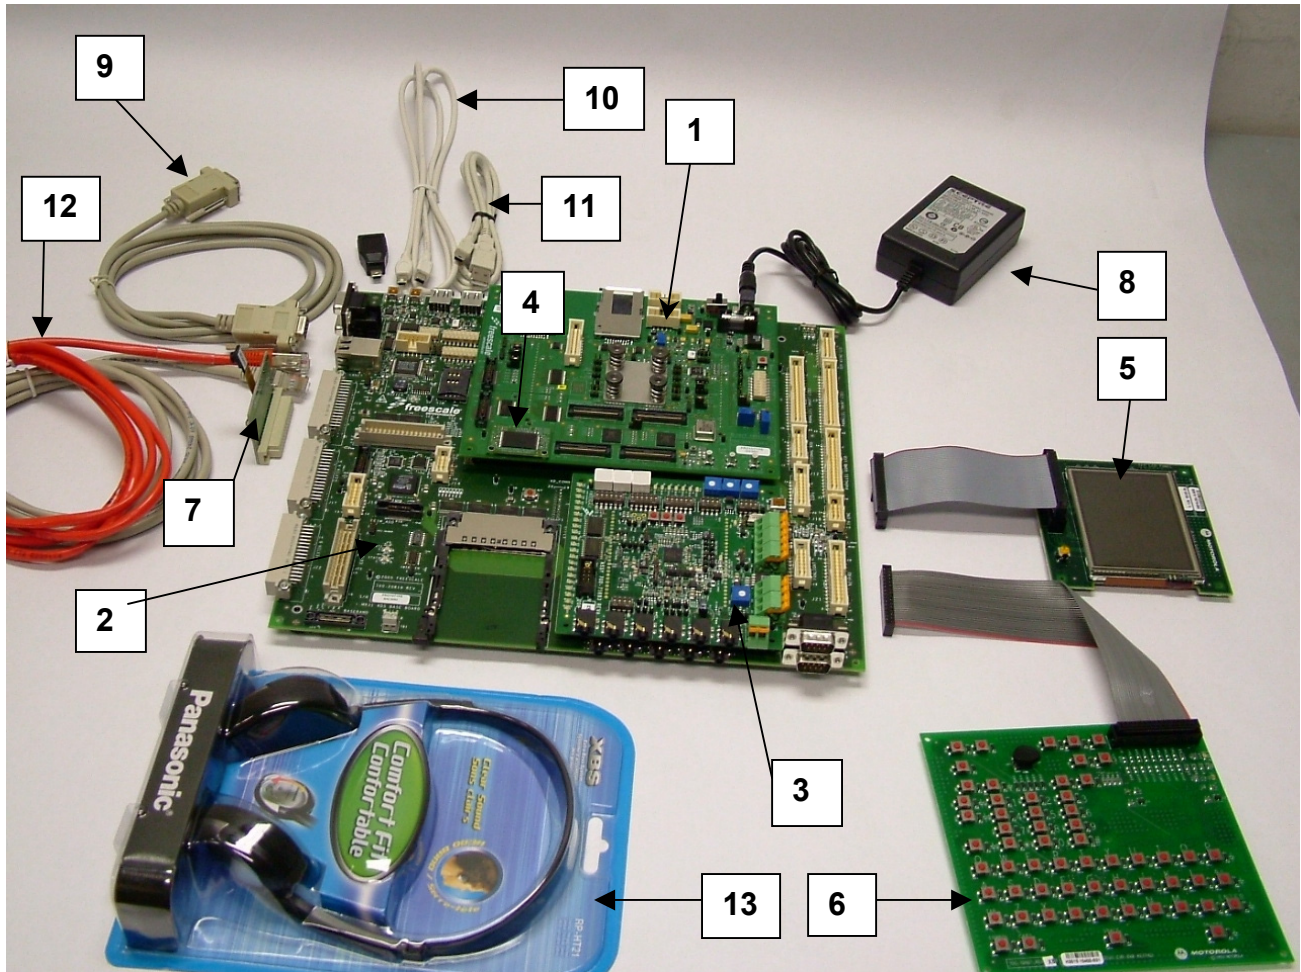

Figure 1. Components of the i.MX31ADS Kit
Your i.MX31 Applications Development System contains the items in the following list. Figure 1 shows each component identified by number.
The following kit components are not identified in Figure 1:
The QVGA is item 5 pictured in Figure 1. Included in the ADS kit is a 34-signal ribbon. Connect one end of this ribbon to the J11 connector on the QVGA. Connect the other end of this cable to the J12 connector on the i.MX31ADS Baseboard labeled “Parallel Dumb LCD”.
The serial cable is item 9 pictured in Figure 1. Connect the male end to the external UART on the Baseboard. The external UART is the top UART next to the Ethernet port connector. Connect the other end to the host computer.